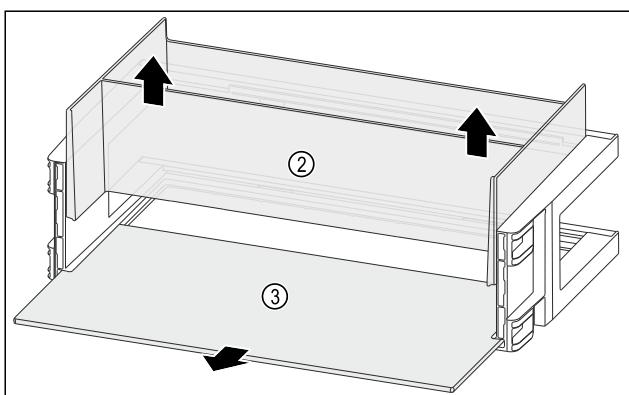

Fig. 122
- Remove the organiser Fig. 122 (2) upwards.
- Remove the shelf Fig. 122 (3).